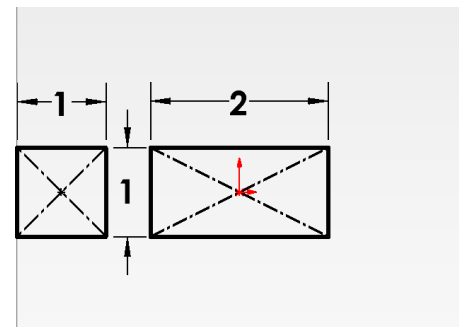

Fig. 10
Step 9. Click **Smart Dimension**  (S) on the Sketch toolbar.
Step 10. Add dimension, **Fig. 10**.